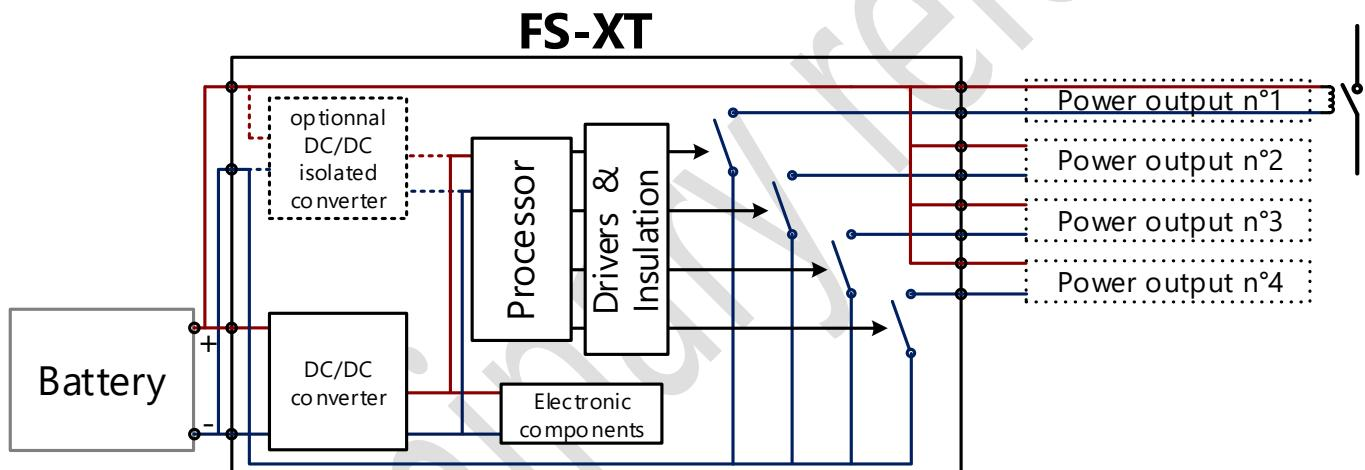

Figure 68: using the battery managed by FS-XT as the external DC source
- The main battery cells managed by FS-XT. If the battery stack has a compliant voltage it can directly be connected on the external DC input to power the peripherals. Figure 68 describes this case.
Figure 71 shows a standard implementation with an external power source to supply the devices driven by the power outputs. AS described on *Figure 68*, it is also possible to directly use the battery as a power source; the only recommendation is to match the input voltage of the driven devices with the battery voltage.